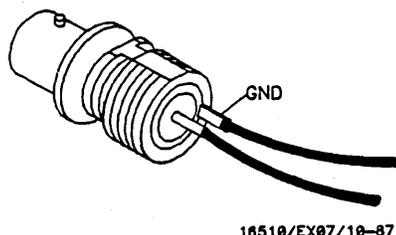

Figure 3-1. Test Connector
The performance tests and adjustments require connecting pulse generator outputs to probe pod inputs. Figure 3-1 is a test connector that may be built to allow testing of multiple channels (up to eight at one time). The test connector consists of a BNC connector and a length of wire. Connecting more than eight channels to the test connector at a time will induce loading of the circuit and true signal representation will degrade. Test results may not be accurate if more than eight channels are connected to the test connector.
The Hewlett-Packard part number for the BNC connector in figure 3-1 is 1250-1032. An equivalent part may be used in place of the Hewlett-Packard part.
Test Connectors (2) see figure 3-1
- 50 Ohm Feedthru (2) ..... HP 10100C
- Test Connectors (2) see figure 3-1